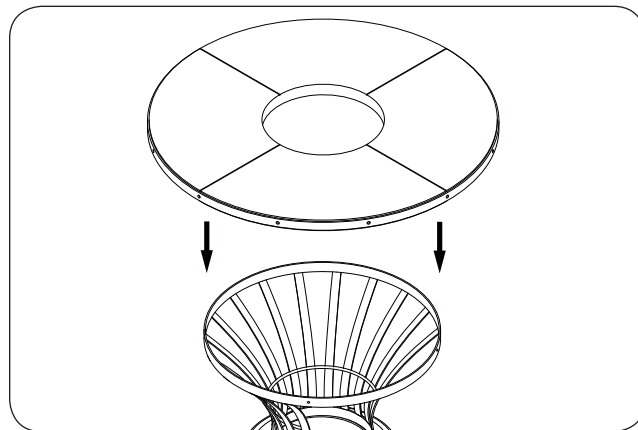

Fig. 18-3 Four-piece models: place top
3. **CAREFULLY** place the top on the unit, ensuring that it rests properly on the base (see Fig. 18-3).